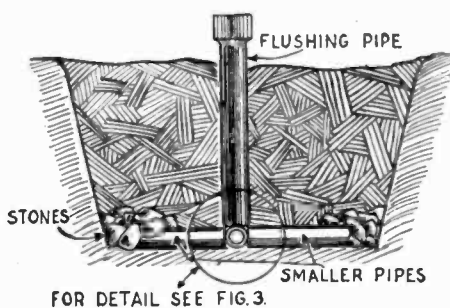

Fig. 1-A. Details of the flushing pipes located over the ground plate.
Having obtained four one-pint Mason jars, you will need eight electrodes for these cells, one pair for each. These electrodes consist of four aluminum and four lead plates, whose dimensions are each  $1\frac{5}{8} \times 5$  inches (Fig. 1). Four aluminum plates cut from an ordinary kitchen casserole are excellent for this purpose. A strip of sheet lead,  $5 \times 6\frac{1}{2}$  inches, obtained at a plumber's shop and cut into four pieces of the same size, will serve for the other set of plates. Scrape all eight plates well with emery paper to bring out a clean surface.
The plates are suspended in the cells, in pairs, by means of wooden supports, the size of each of which is  $\frac{3}{4} \times \frac{1}{8} \times 3$  inches. Both plates and supports and the method of attaching them are sketched in Figs. 1 and 2. Two holes drilled in each plate will allow two small screws to attach it to its support, a 10-in. length of copper wire being firmly entwined between the screws and wood support for connection later. The supports should be boiled in a hot paraffin bath for an hour or so before final use. The four cells are then placed upon a base of wood (8 by 10 inches), arranging the plates in the manner shown in Fig. 4. Two hard rubber strips are fastened to the base, having binding posts with which external connections are made. The receptacle (S) is an ordinary porcelain lamp socket, placed where shown, and used for inserting the resistances (R), as a lamp, electric iron, etc.
Fig. 1 shows a section through the trench in which the plate has been buried. Above
Fig. 1. Showing the details of a water-supply system for the ground connection. The flushing pipe carries water to the plate, to which the ground wire is soldered.